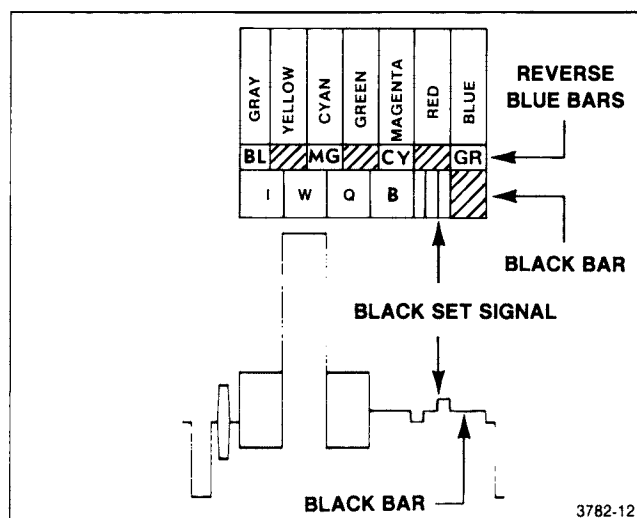

Fig. 4-7. The SMPTE —I,W,Q,B signal with Black Set.
- c. Set the 1480 to 15 lines and rotate the Var Line Selector until the EIA —I,W,Q,B signal is displayed (see Fig. 4-7).